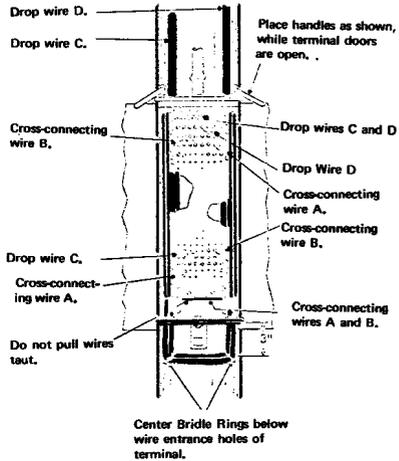

FIGURE 10. Cross-Connecting Terminal Wiring
7.01 Run cross-connecting wires through the holes immediately above the binding posts to the right of the wiring holes, and use the holes immediately below the binding posts to the left of the wiring holes (see Figure 10).